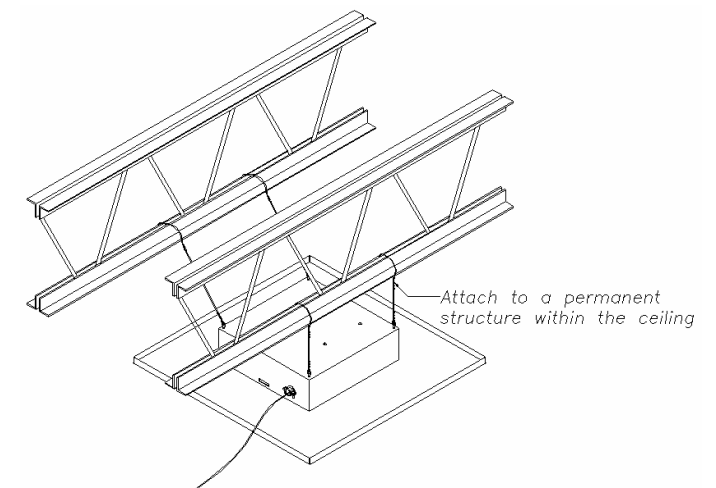

Figure 3
Step 3 – Use minimum 12-gauge support wire (included) to support the *access point enclosure* independently of the ceiling grid. Attach one end of the wire to the support wire tabs located along the edge of the back box and the other end to a permanent supporting structure within the ceiling such as a ceiling joist (Ref. Figure 3).